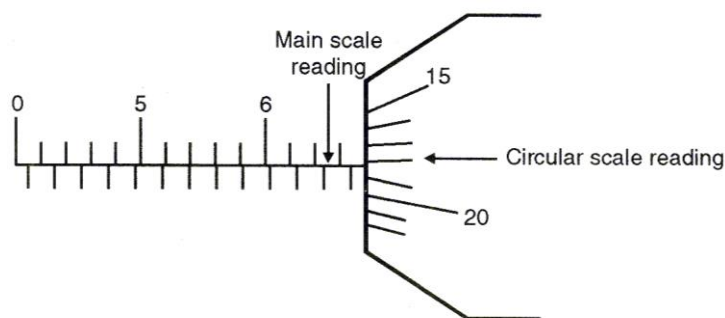

Fig. 11.2.14
- Consider another example, as shown in Fig. 11.2.14.